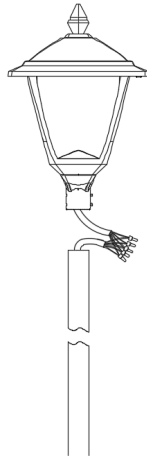
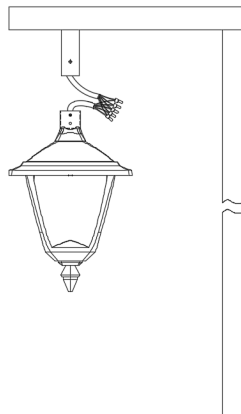
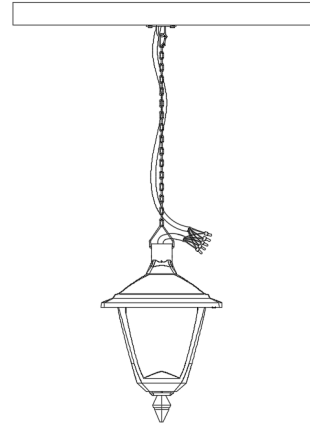
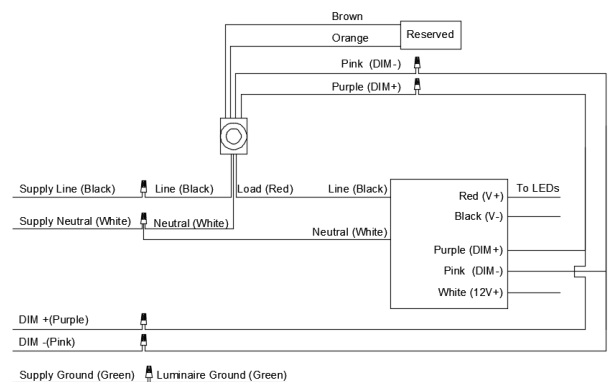

Fig.3
Fig.7
Fig.11
Fig.20
1. Feed supply wire from the pole to connect to the Arm. Make appropriate wire connections per NEC in an approved enclosure (Fig.3. and Fig.20.)
2. Feed supply wire from the pole to connect to the Arm. Make appropriate wire connections per NEC in an approved enclosure (Fig.7. and Fig.20.)
3. Feed supply wire from the pole to connect to the Arm. Make appropriate wire connections per NEC in an approved enclosure (Fig. 11. and Fig.20.)